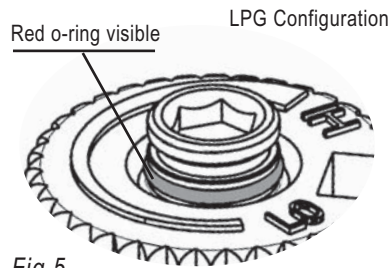

Fig.5
- 14) Verify that if the conversion is from NG to ULPG, the screw must be re-assembled with the red o-ring visible (Fig. 5).